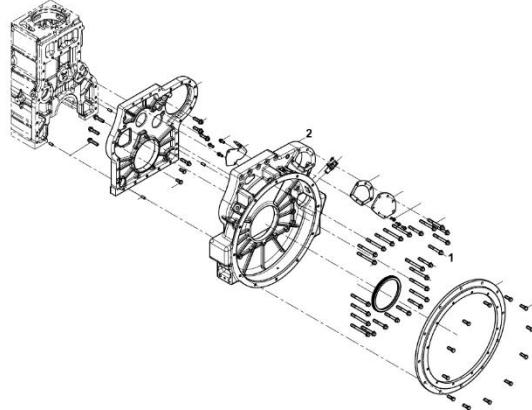

Figure 90.
3. Loosen and remove the flywheel housing bolts (Figure 90, Item 1).
4. Remove the flywheel housing (Figure 90, Item 2).
5. Remove the Rear oil seal (Figure 90, Item 3) from the rear oil seal seat.